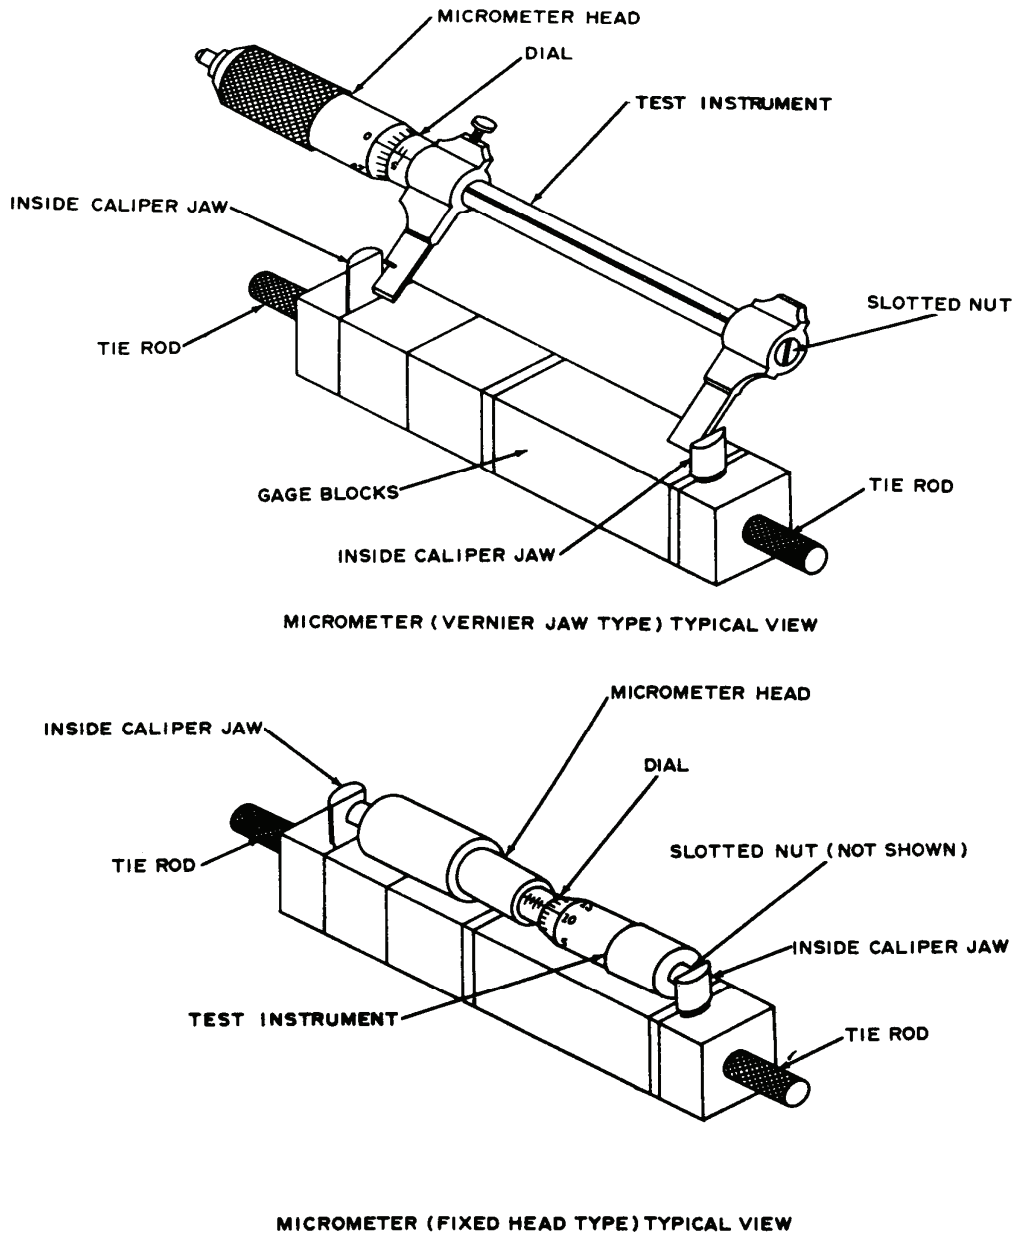

Figure 6. Micrometer head calibration.
- (3) Set up the TI to be calibrated as shown in figure 6.